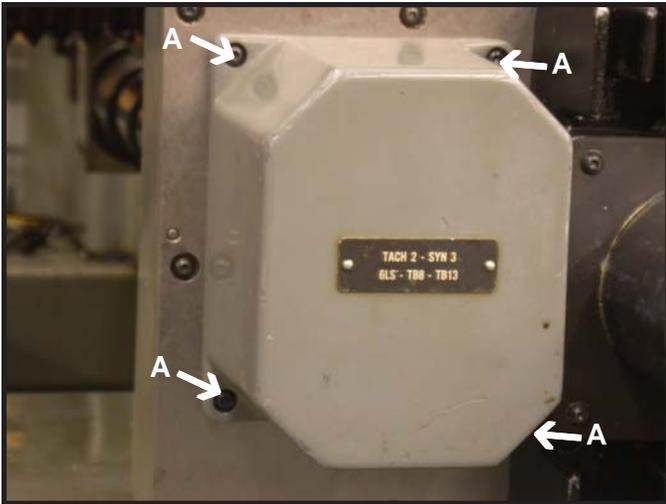

Figure 4.2.1
At the Tail stock end of the lathe, remove the (4) SHC screws (Figure 4.2.1 - A) and feedback cover for the Z axis feedback unit.